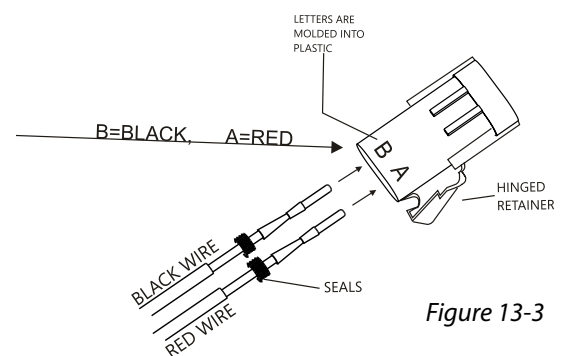

Figure 13-3
- Insert pins as shown. *[Figure 13-3]*